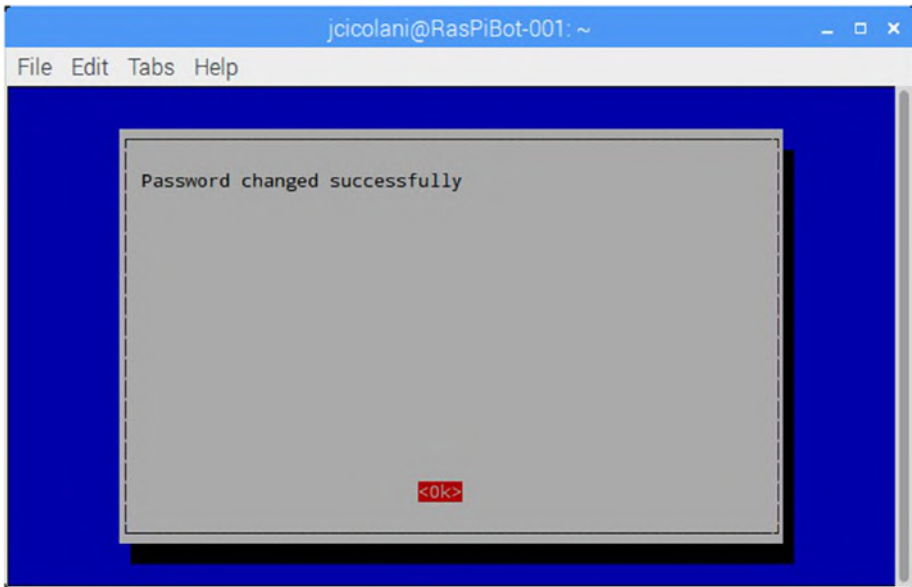

Figure 2-7. A password change confirmation in raspi-config
10. Confirm your new password and press Enter. This displays a confirmation that the password was successfully updated (see Figure 2-7).